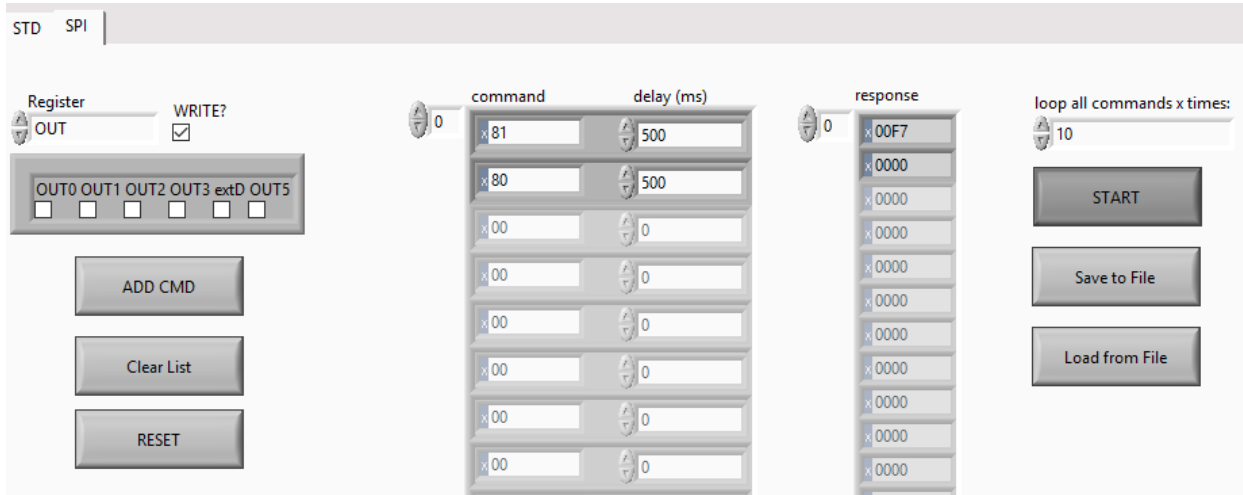

Figure 38 - Switch to SPI and start command sequence
- Switch back to SPI view and click the START-button (See Figure 38)